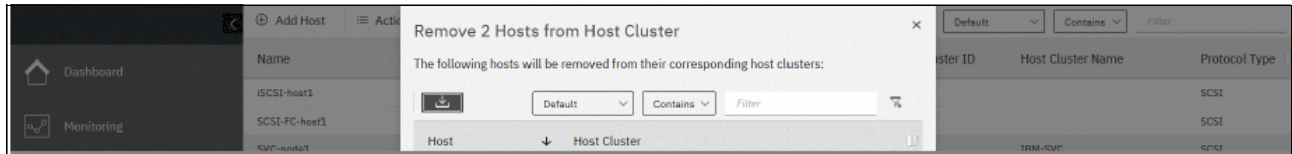

Figure 7-42 Removing a host from a host cluster
2. Complete the required information in the dialog window (see Figure 7-42). Verify the list of hosts to be removed and determine what to do with the host mappings. Click **Remove Hosts**.